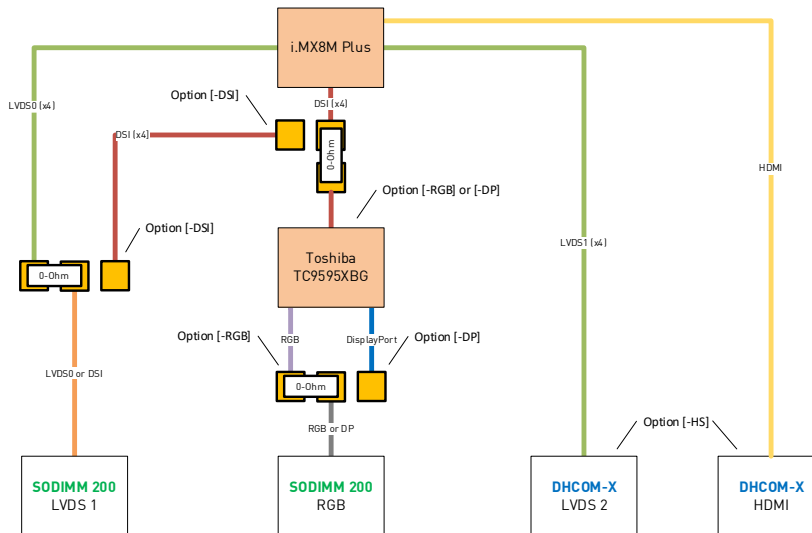

Figure 21: Display interface Options
- The RGB interface pins are shared with DisplayPort™ pins. This means, either one or the other is possible. Please have a look at Figure 21: Display interface Options.
- The MIPI® DSI interface pins are shared with LVDS and also with RGB and DisplayPort™. This means, either one or the other is possible. Please have a look at Figure 21: Display interface Options.
- The LVDS channel 1 interface pins are shared with MIPI® DSI. This means, either one or the other is possible. Please have a look at Figure 21: Display interface Options.